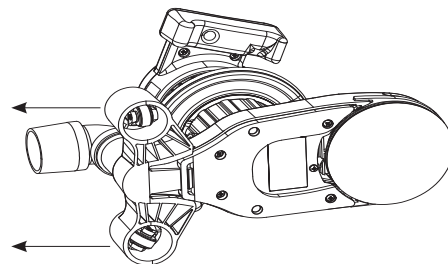

Figure 6
3. Edging Caster Attachment should be used for edging only. For Stair sanding - remove Edging Caster Attachment with one quick backwards tap on the caster attachment (Figure 6).